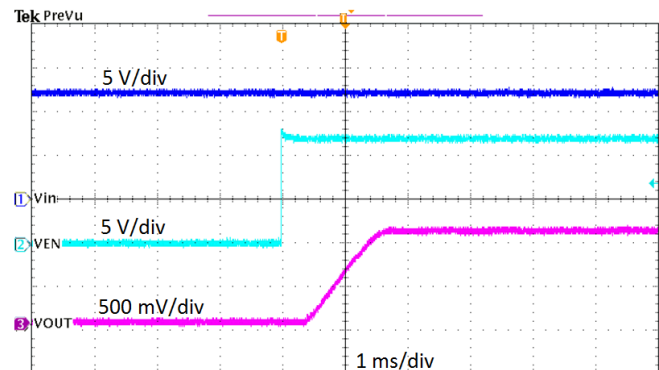

Figure 10. Start-Up Relative to EN
The TPS561208EVM-896 start-up waveform relative to enable (EN) is shown in Figure 10. Load = 1.05 Ω resistive.